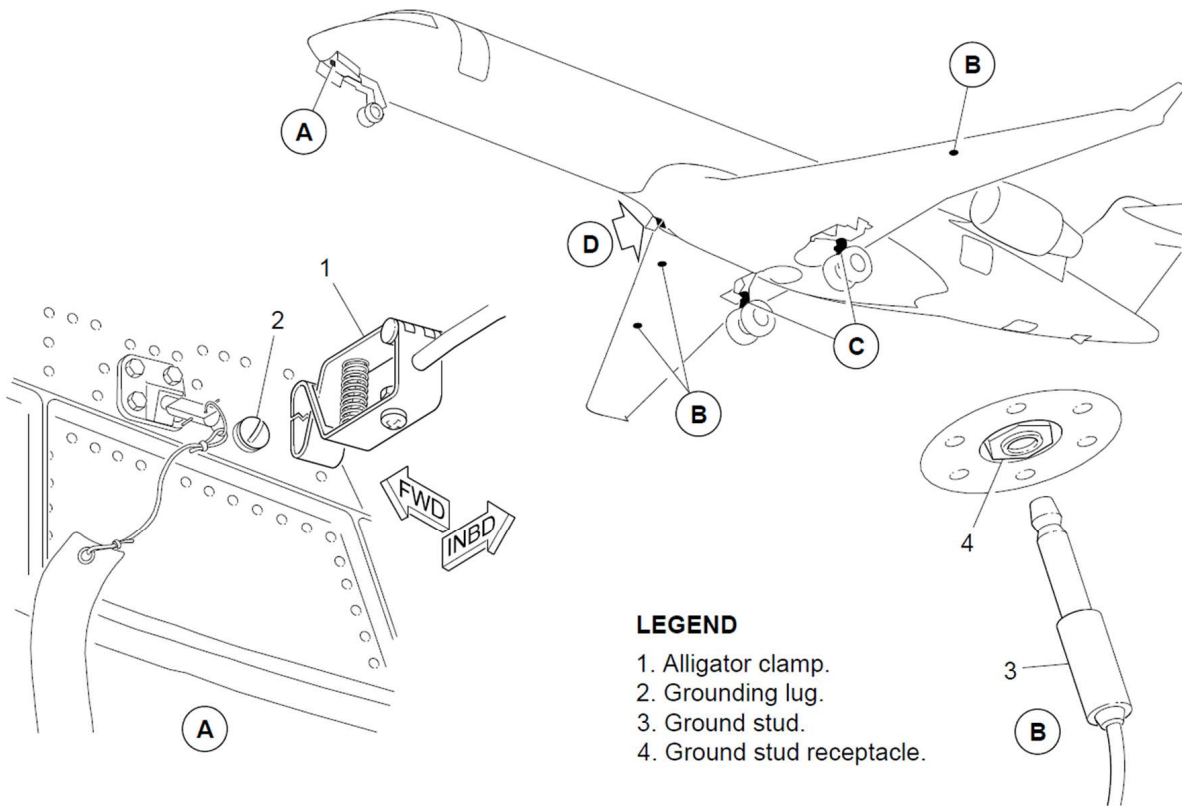
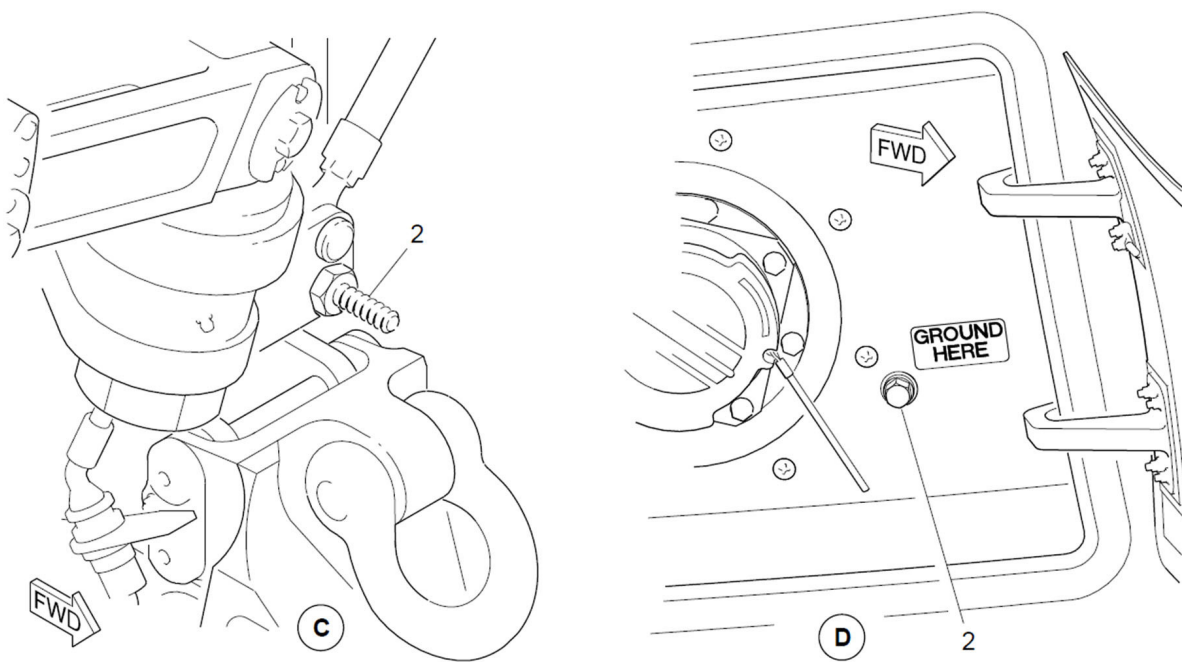

Figure 3-1: CRJ Grounding Points
Figure 3-2: CRJ Grounding Lug
- A. Before commencing any fuel servicing on Mesa Airlines, Inc. aircraft, ensure the aircraft has been properly bonded to the fuel tender. Refer to Figure 3-1: "CRJ Grounding Points" and Figure 3-2: "CRJ Grounding Lug" for reference to the following procedures.
- 1. Nose Landing Gear Compartment (clamp style only) (refer to Figure 3-1 – Label A).
- 2. Wing Leading Edges (plug style only) (refer to Figure 3-1 – Label B).
- 3. Right or Left Main Landing Gear (MLG) (clamp style only) (refer to Figure 3-1 and Figure 3-2 – Label C).
- 4. Fuel Access Panel Grounding Lug (refer to Figure 3-1 and Figure 3-2 – Label D).